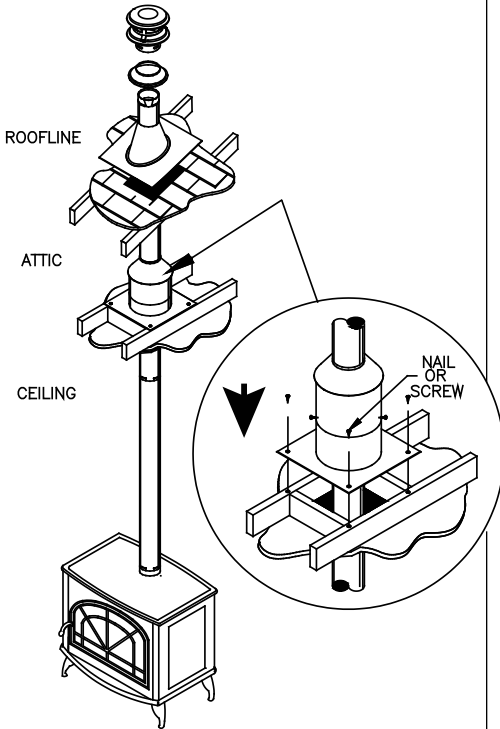

Figure 6
PelletVent Pro does not require additional sealant to be used at pipe joints, but in certain circumstances sealant may be used if desired. Seal the inner liner overlap at the male end of pipe for best results (*Figure 6*)
G. When the PelletVent Pro enters the attic, install an Attic Insulation Shield around the vent (**Figure 6**). This will prevent insulation and debris from collecting near the vent pipe. Use (4) nails or wood screws to secure the base of the Attic Insulation Shield to the framed opening. Adjust the height of the Attic Insulation Shield by sliding the top cylindrical shield over the one from the base. Ensure that the top of the Shield is above the level of building insulation. Secure the Shield in place with at least two (2) sheet metal screws through the side of the cylindrical shield. Attach collar around pipe, then lower to the top of the Attic Insulation shield.